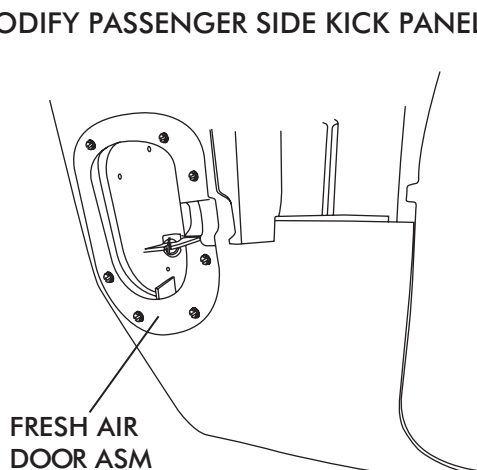

FIGURE 4
- ☐ REMOVE KICK PANEL FRESH AIR DOOR ASM BY REMOVING (5) OEM SCREWS.
- ☐ DISCONNECT PULL CABLE ASSEMBLY FROM UNDER DASH (DISCARD). SEE FIGURE 4 BELOW